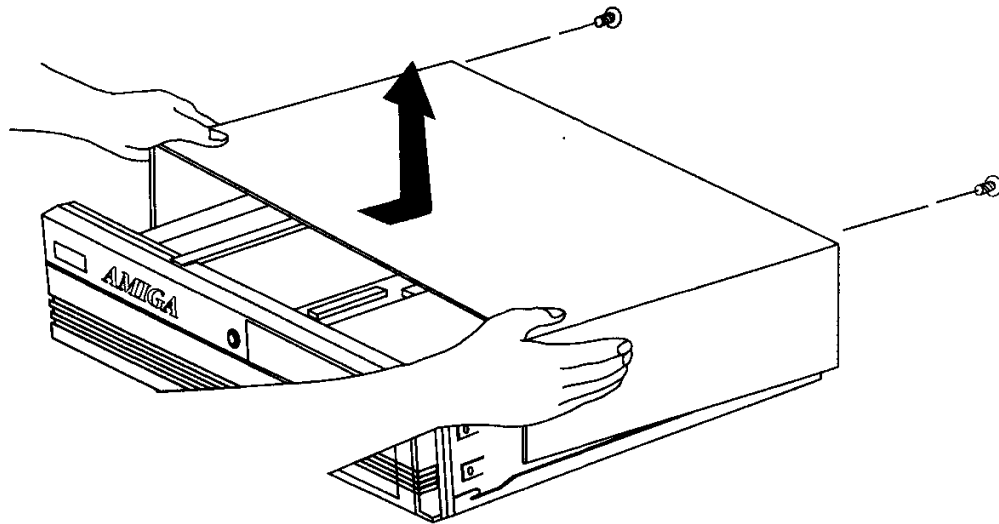

Figure 3-1. Removing A4000 main unit cover
2. Grasp the cover on both sides as illustrated in Figure 3-1, and slide it backward and up.